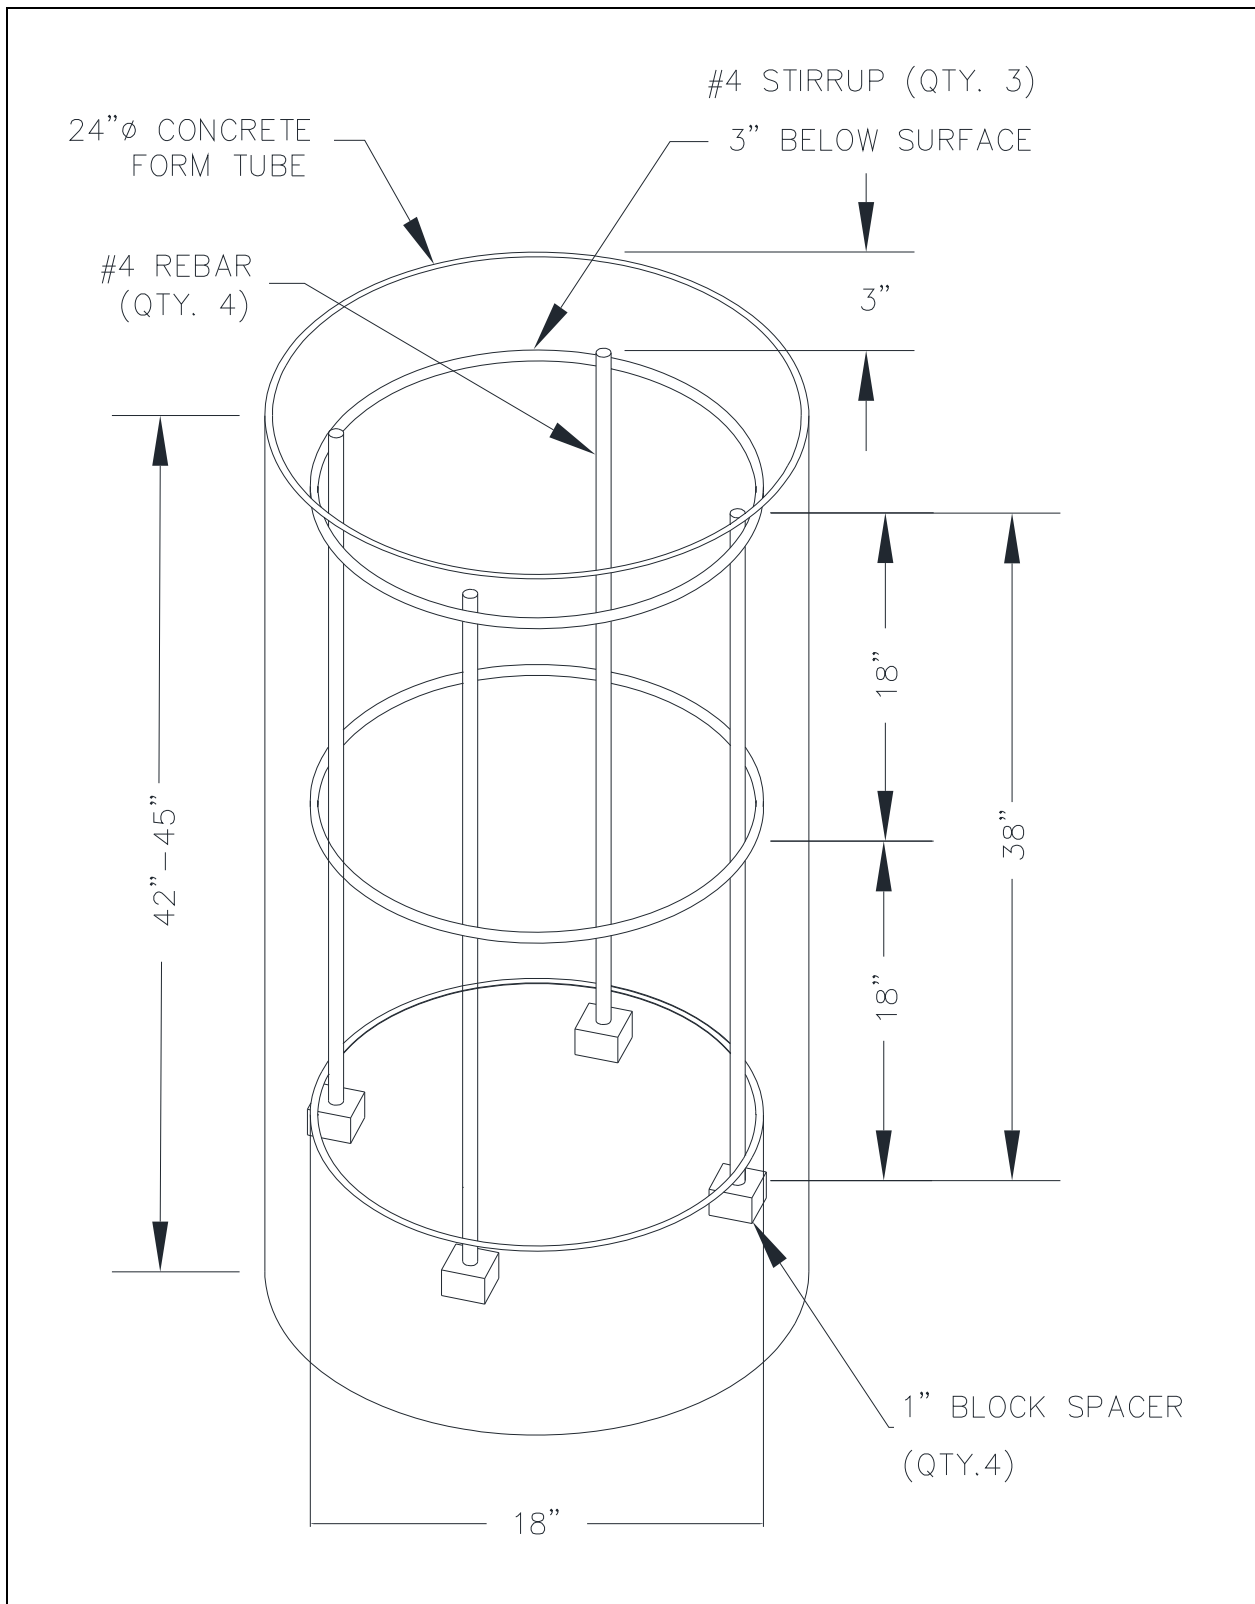

Figure 3. Reinforcement Cage Detail
2. Tie the two remaining horizontal stirrups 18 inches above and below the center point (see Figure 3).